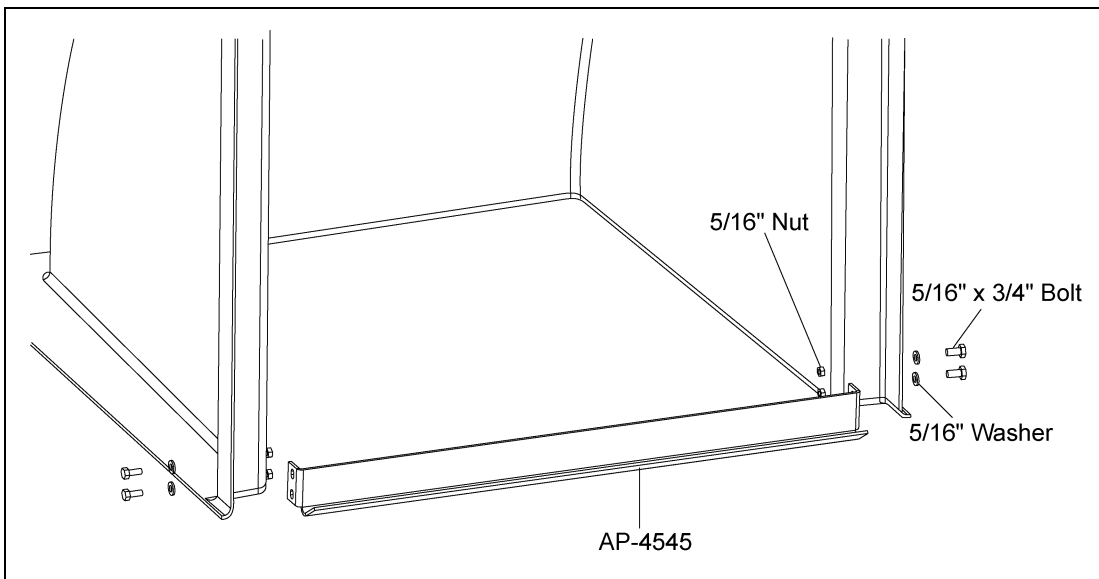

Figure 2B
Step 2: Install the bracket AP-4545 using the provided hardware. (See Figure 2B.)